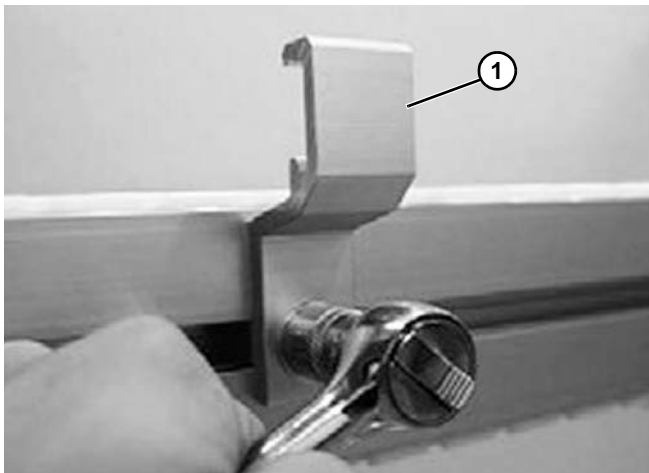

Figure 105
1. Fasten a fixed guide rail bracket support (Figure 105, item 1) to the conveyor beam using T-bolt.